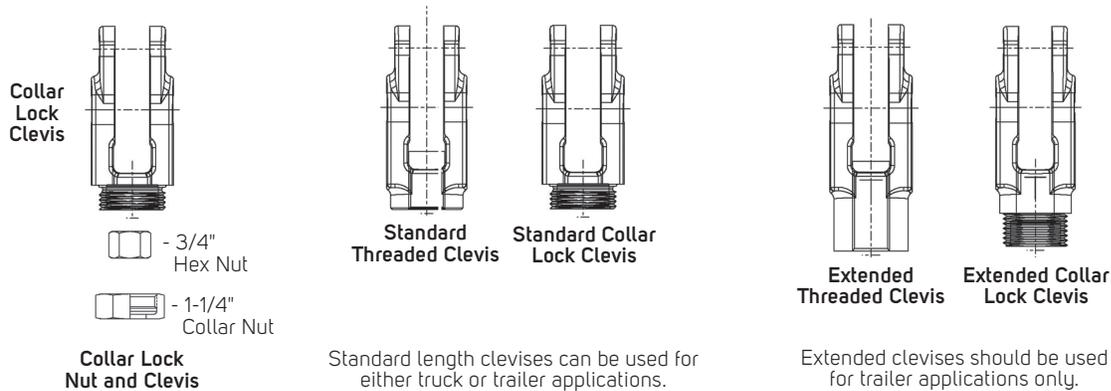

Figure 1 - Clevis Type - 1.020" pin center distance
4. Refer to Figure 1 and determine if your Gunite slack adjusters are equipped with the threaded clevis or the collar lock clevis (extended or standard length with 1.020" pin center distance). Refer to the correct installation procedure for the style of clevis used on your Gunite slack adjusters.